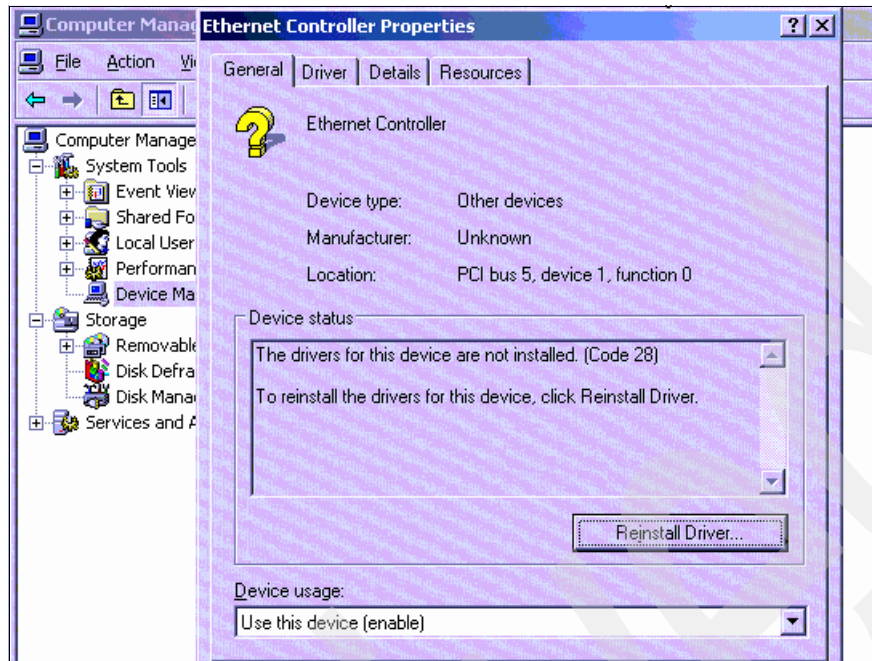

Figure 4-64 Confirming drivers do not install
- v. Double-click one of the Ethernet controllers and the status tells you that the driver is not installed (Figure 4-64 on page 97).